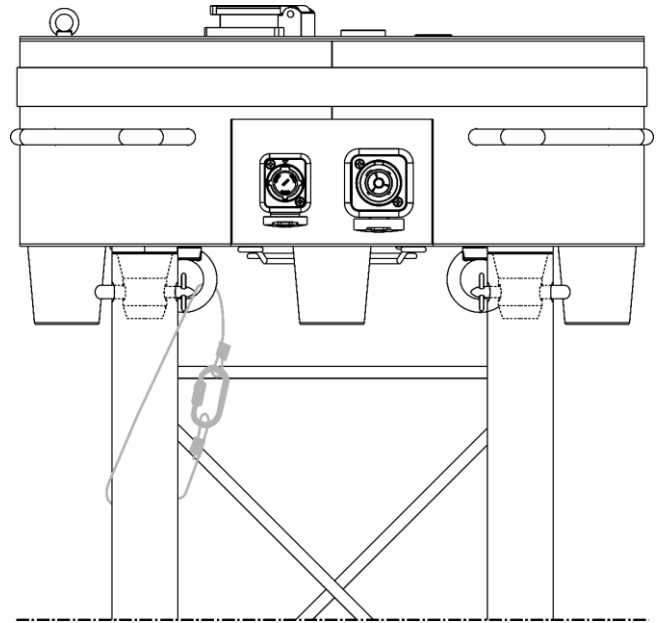

Fig. 13
07) Secure the device with a secondary suspension, for example a safety cable as shown in Fig. 13. Put the safety cable through the **safety eye (13)**.